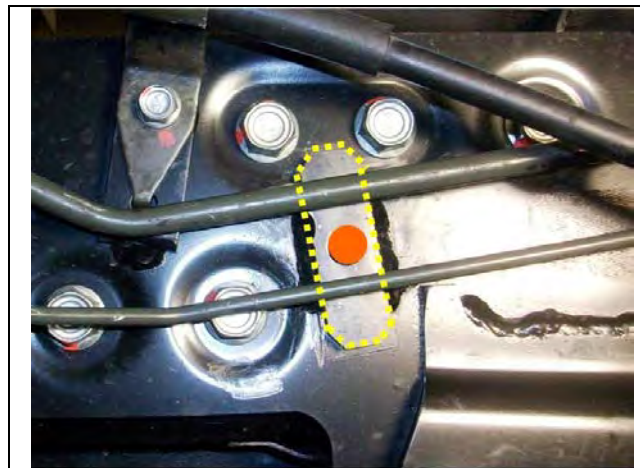

Figure 53
20. Using a ¼” drill bit, drill a hole in the frame through the passenger side reinforcement bracket brake clip mounting hole. See Figure 53.
22. Locate the ¼” hole drilled in Step 20. Use the 33/64” drill bit and finish drilling this location. Mark this location with tape or chalk. This hole is required to provide clearance for the passenger side brake pipe clip. See Figure 53.